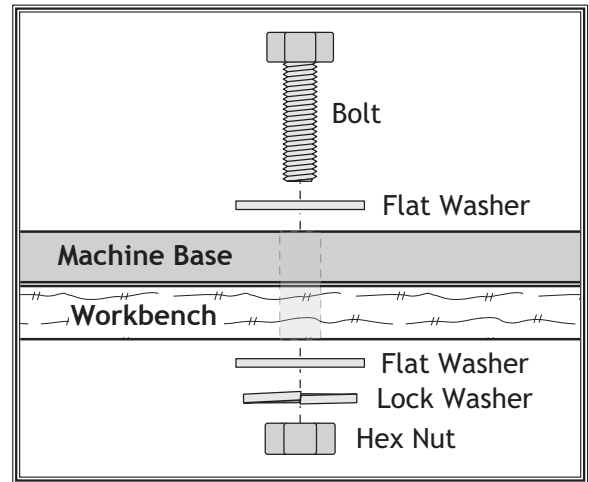

Figure 2. Example of a through mount.
The Model W1681 is designed to mount to a bench top using (4)  $\frac{5}{16}$ " diameter lag bolts or through bolts, as shown in Figures 2 & 3.